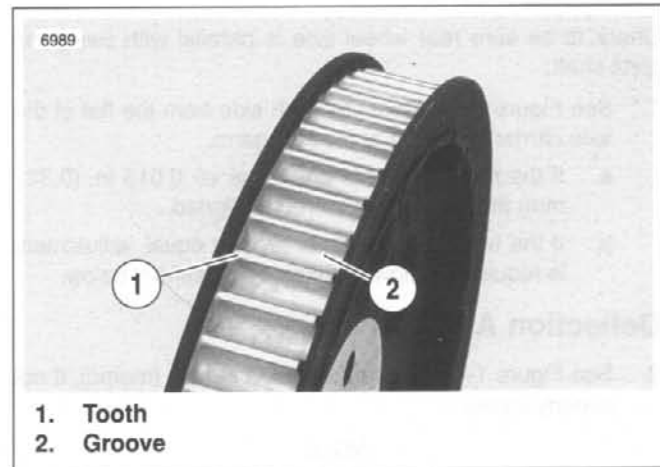

Figure 1-43. Rear Sprocket
1. See Figure 1-43. Inspect each tooth (1) of rear sprocket for:
2. To check if chrome plating has worn off, drag a scribe or sharp knife point across the bottom of a groove (2) (between two teeth) with medium pressure.